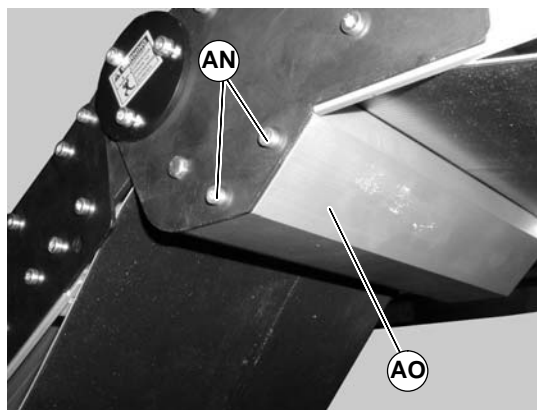

Figure 29
4. Install knuckle guard (AO of Figure 29) with screws (AN) on both sides of knuckle. Tighten screws to 25 in-lbs (3 N-m).